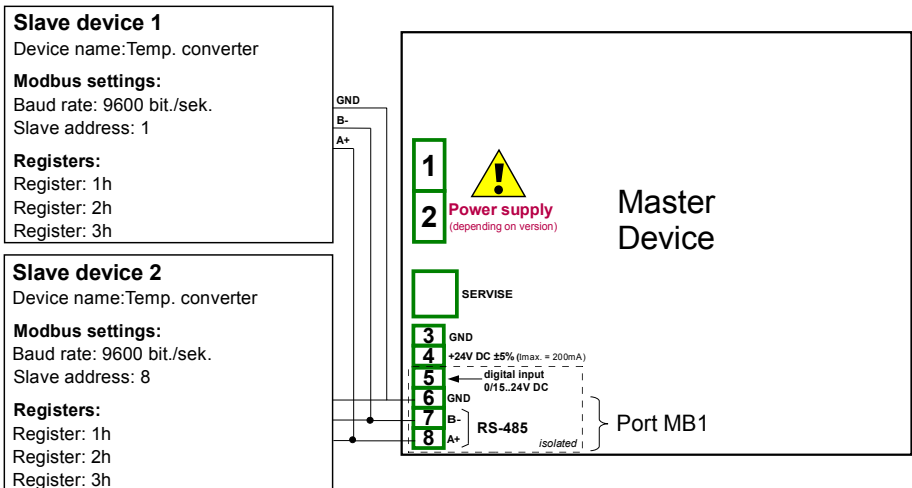

Fig. 7.128. Connection diagram for the Modbus port MB1
First configure the device then connect the SLAVE device to the MultiCon (in accordance with Fig. 7.128).
- using the arrows in upper right corner choose **Port number: 1 (MB1** in accordance with **Fig. 7.128)**,